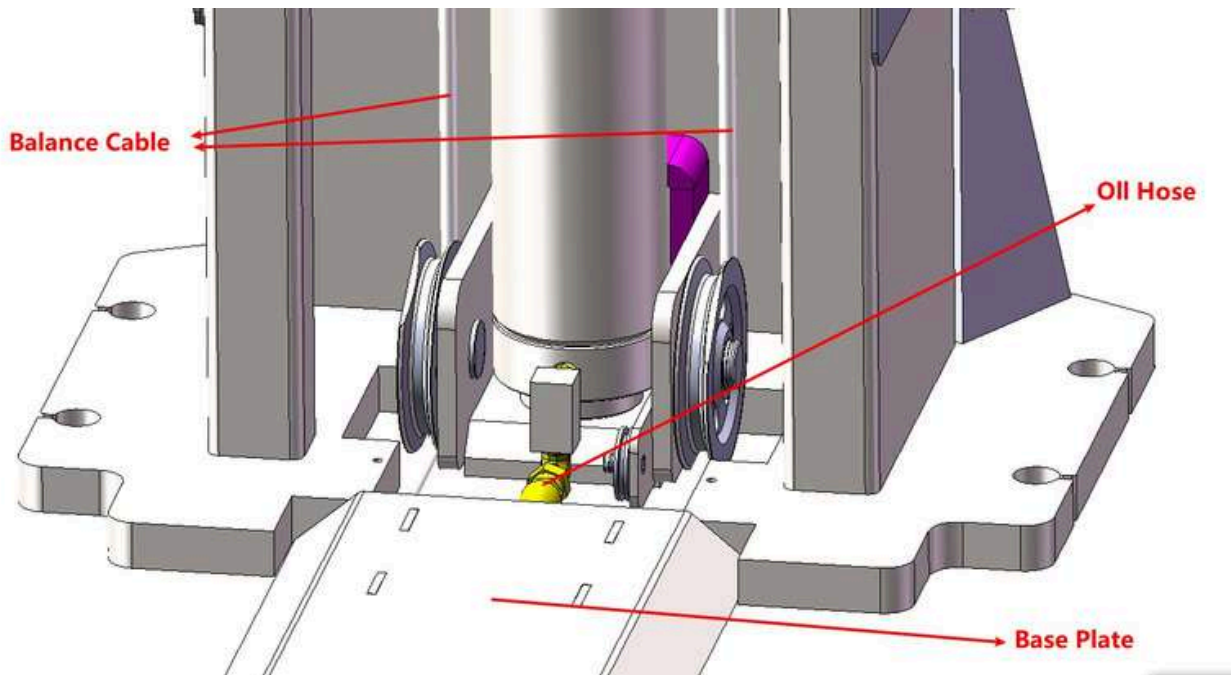

Fig 14
1.Safety Lock Release Cable & Hose & Top Limiter Switch Wire Position (Fig 14).